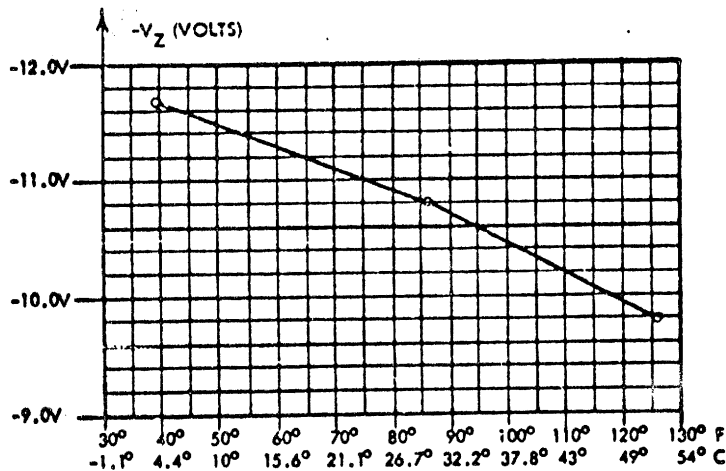

FIGURE 1B - Vz
- 5. SET NOMINAL Vz (-9 TO -12 V) FOR TEMPERATURE MEASURED IN "A3" ACCORDING TO CURVE OF FIGURE 1B